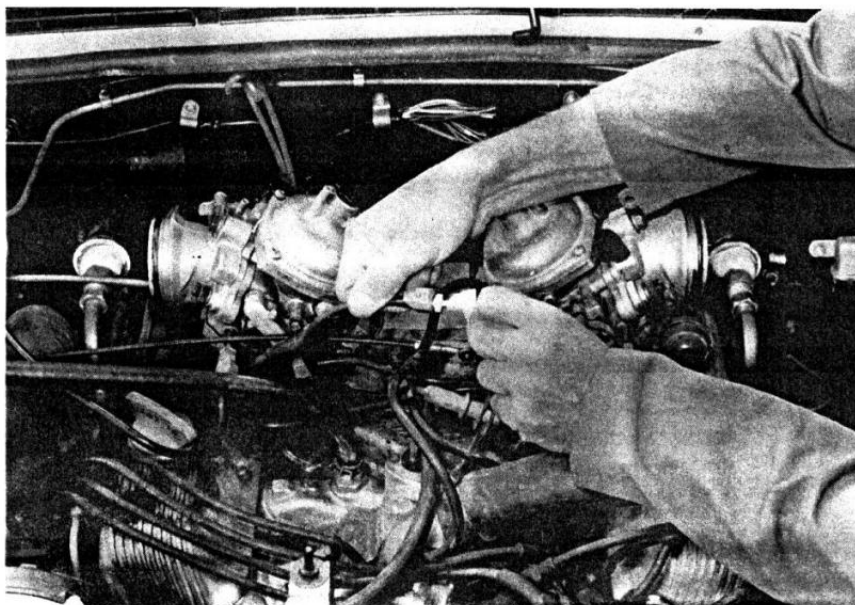

FIG. 96
25. Unseal the hot air intake connections **Fig. 96** and refit the carburettor air filter. The intake flap should close when the vacuum pipes are first connected but will open when the control valve senses the intake temperature.